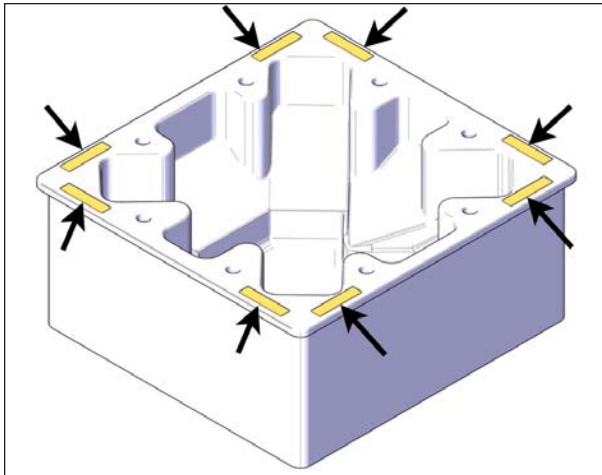

FIGURE 33: FOAM SPACER INSTALLATION
1. Install foam spacers on the top of the spa near each corner. Use the masking tape provided in the seal bag to keep the spacers in place. Install at least 3 foam spacers on each longest side. Do not stack foam spacers see Figure 33.